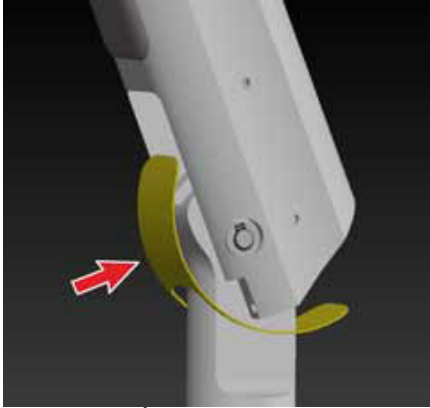

Figure 75
- For fixing back the scissor-arm end caps first, align the rubber part of scissor-arm as shown in Figure 75.